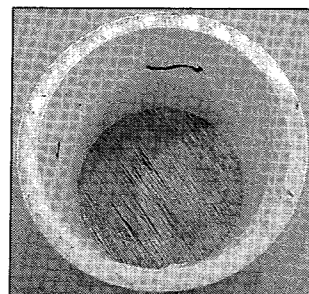

Figure 2
2. Cut a circular base out of Luan and attach it to the pipe securely. (Figure 2) To create an easier release, you may want to cover the Luan with